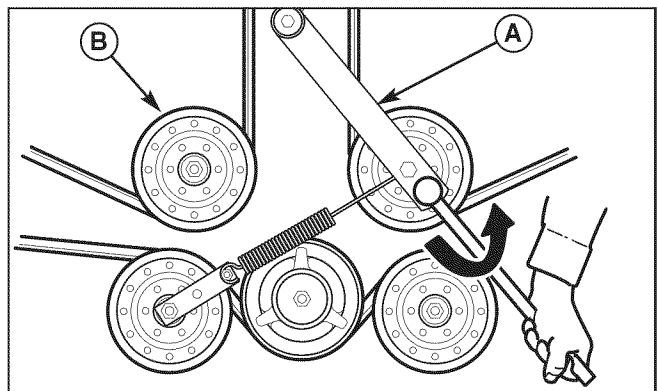

Figure 19. Mower PTO Belt
1. Using a 1/2" breaker bar, place the square end in the square hole located in the end of the idler arm (A, Figures 19). Carefully rotate the breaker bar counter-clockwise, which will relieve the tension on the belt exerted from the idler arm.
2. Slide the drive belt over the edge of the stationary idler pulley (B). Carefully release the tension on the breaker bar. Remove the belt from the right-hand (discharge side) spindle pulley.